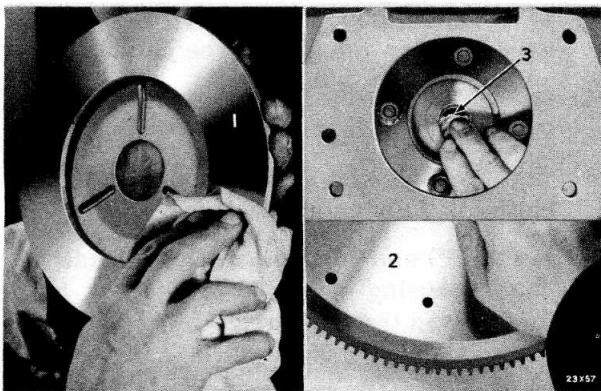

Fig. 7—Cleaning Clutch Friction Surfaces and Lubricating the Pilot Bushings
- (1) Coat the main drive pinion pilot bushing (3, Fig. 7) in the end of the crankshaft and the end of the main drive bearing with short fiber wheel bearing grease, medium.
- (2) Clean the surfaces of the flywheel and pressure plate thoroughly (Fig. 7). Make certain that no oil or grease remains on these parts.